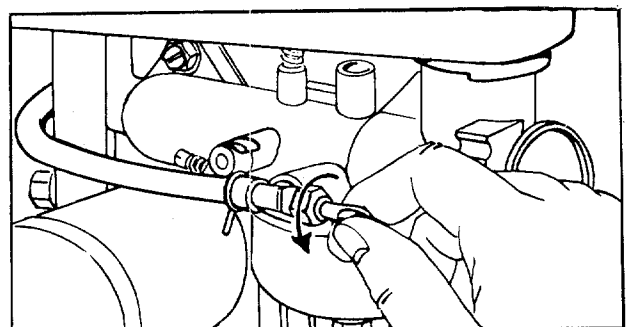

FIGURE 11. FUEL SHUT-OFF VALVE
Step 1. Be sure the fuel shut-off valve is open. See figure 11.